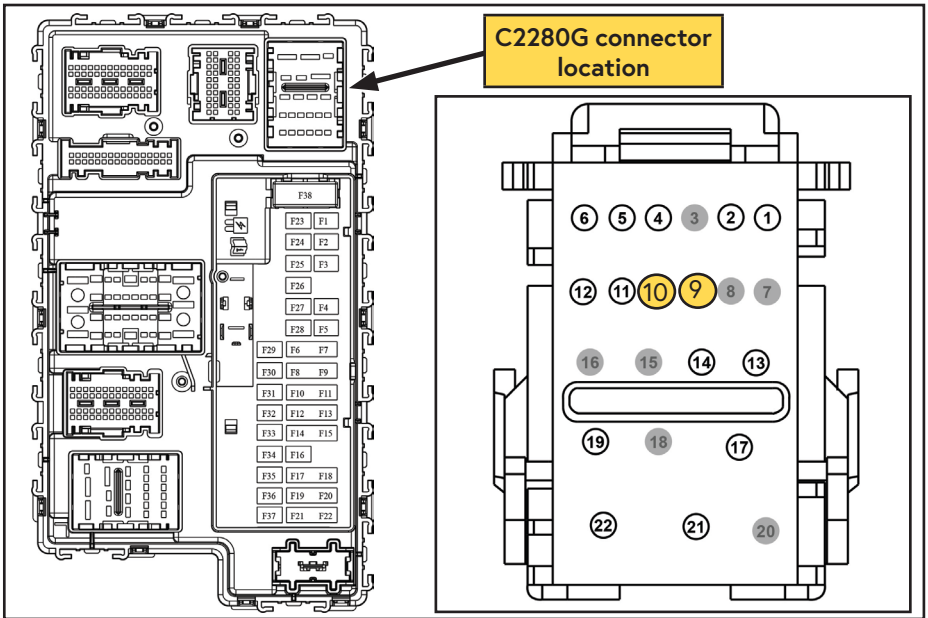

Figure 55 — BCM and C2280G connector
- Disconnect the C2280G connector and locate the white wire at pin 9 (CAN L), and the blue wire at pin 10 (CAN H) (Figure 55).